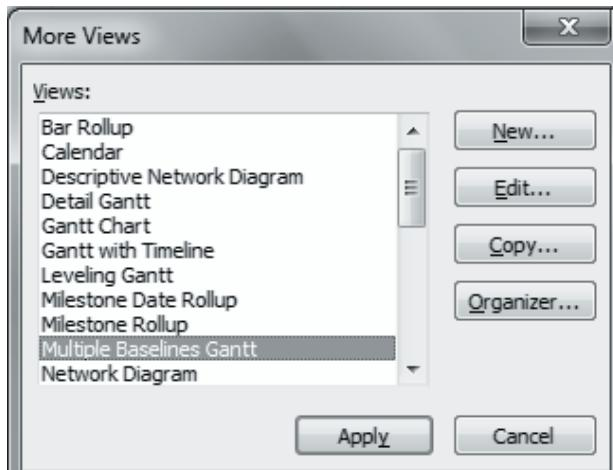

Figure 9.8: Multiple Baselines Gantt Option in the More Views Dialog Box
2. Click **Multiple Baselines Gantt** in the views list of the **More Views** dialog box, and then click the **Apply** button as shown in figure 9.8.